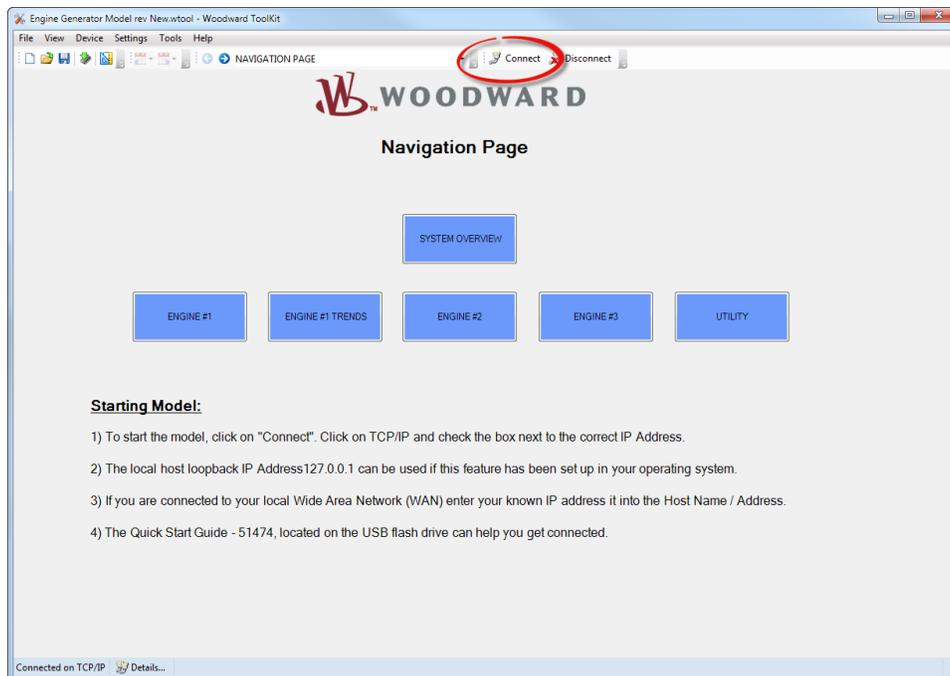

Figure 1-1. Connect Button on Navigation Page
4. After ToolKit starts, Click on the **Connect** button, as shown in Figure 1-1.: